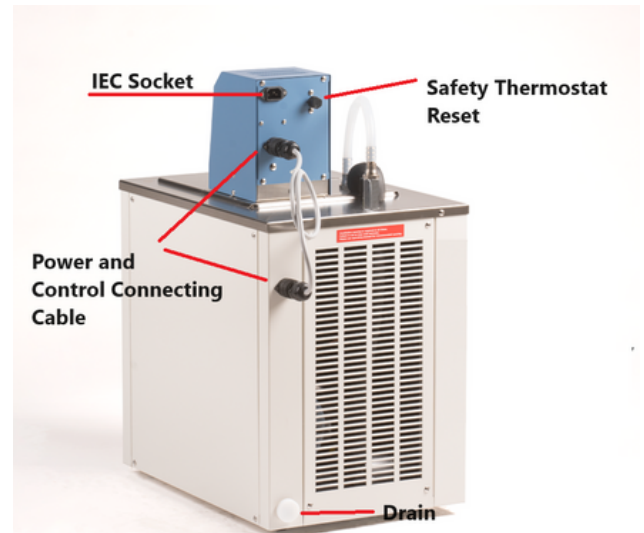

Fig 2. TWBRC-12 connections
- The power and control cable needs to be plugged into the back of the heater circulator and also into the bath prior to start up. **(Fig 2 & 3)**